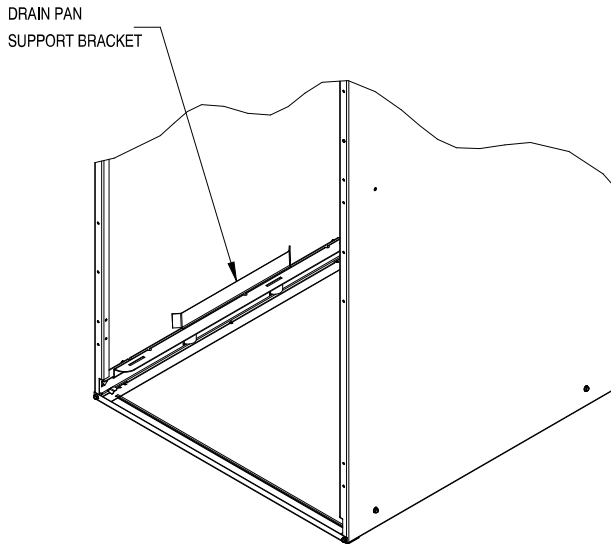

Fig. 7 – Drain Pan Support Bracket
7. Remove horizontal drain pan support bracket from coil support rail on left side of unit and reinstall on coil support rail on right side of unit (Fig. 7).